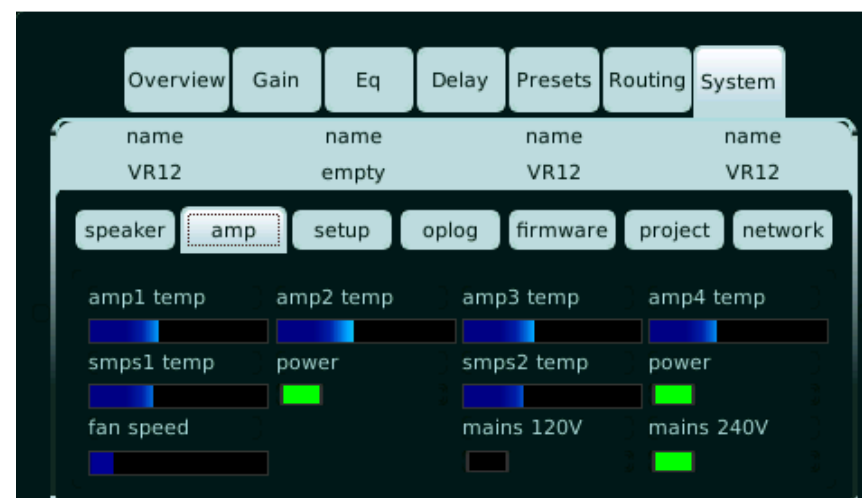

Fig 21. Amplifier status, temperature scales, fan speed level 1, AC mains 240V indication
**7.7.2 Amp** - this sections indicates the temperature of the power supplies (“SMPS” 2x) and amplifier stages (“amp” 4x) through a color scale from blue to red. (see fig.21)